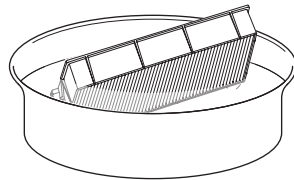

Fig. 1
**2) Remove the air filter cover. (Fig. 1)**
**1) Wash the air filter unit. (Fig. 1)**